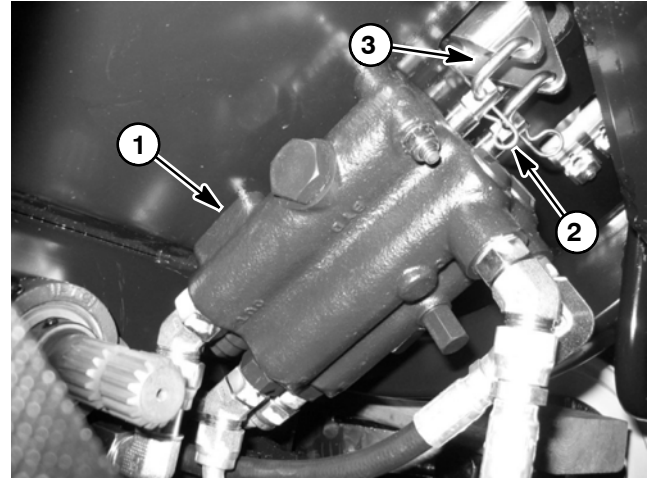

Figure 106
5. Remove hair pins that secure lever valve links to control valve spools (Fig. 106). Slide links from spools.
7. Remove two (2) carriage screws and flange nuts that secure control valve to machine. Remove control valve from machine.
2. Position control valve to machine frame and secure with two (2) carriage screws and flange nuts.
3. Attach lift lever valve links to control valve spools and secure with hair pins (Fig. 106).